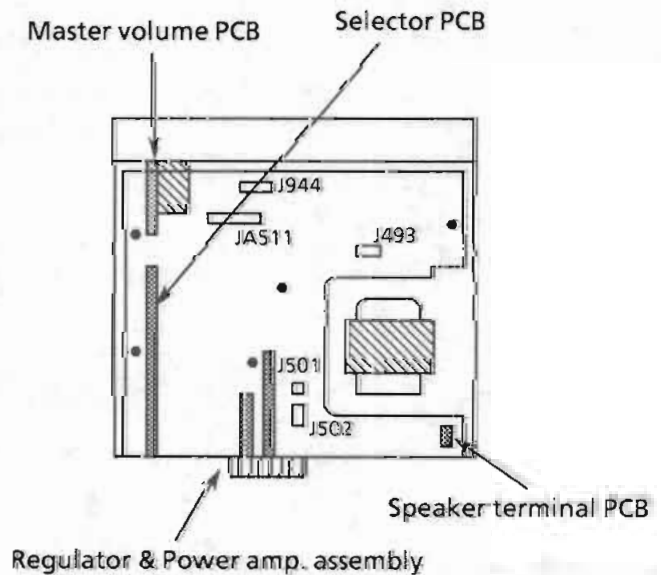

Figure 3 Top view of the front panel assembly without the CD chassis base
4. Disconnect the flat wire J493, JA511 and J944 (Figure 3).
5. Remove the master volume PCB, selector PCB, speaker terminal PCB & Regulator & Power amp. assembly (Figure 3).
6. Disconnect the flat wire J501,502 (Figure 3).